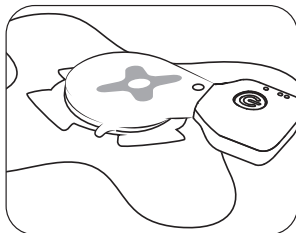

figure 8C: Press Applicator down
- C. While continuing to support the edges of the cup, firmly press the applicator down onto the center of the gel cup until a clicking noise is heard or clicking sensation is felt (Figure 8C).